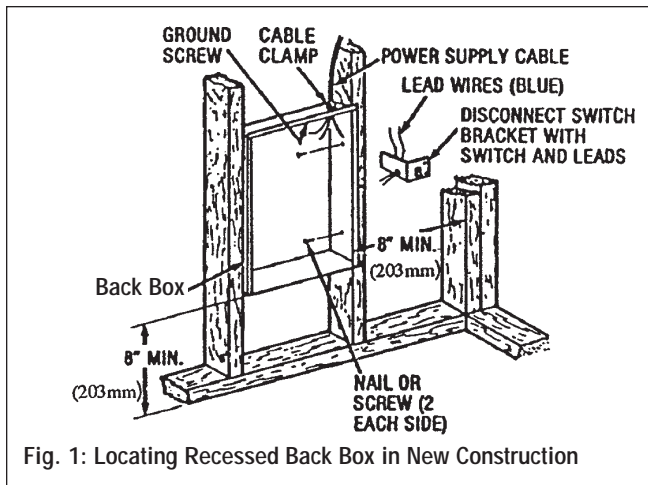

Fig. 1: Locating Recessed Back Box in New Construction
1. Mounting Back Box (See Figure 1).
- c. Secure the back box in position with wood screws or nails as shown in Figure 1.
2. Power Supply Wiring (See Figure 1)